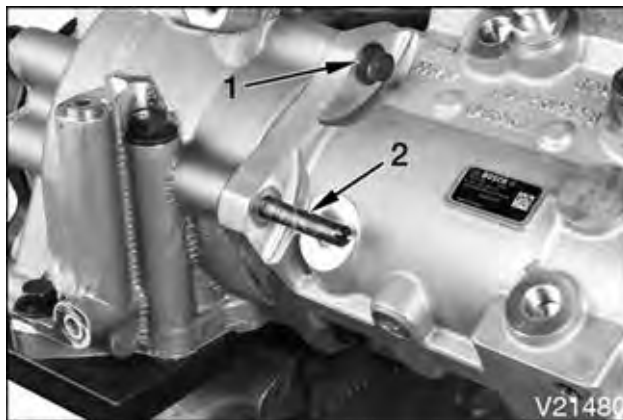

Figure 16. HPP Guide Studs
31. Remove four pump-to-drive housing bolts and install two guide studs (12-454-01-2) (Figure 16) on opposite sides of HP fuel pump (Figure 16).